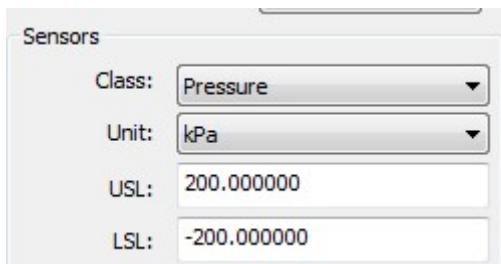

Figure 5.59 Selection of Lower Range Limit of Sensor Range
1. Select "detailed Design"->"Sensor"-> drop-down box corresponding to"sensor range limit", as shown in Figure 5.59